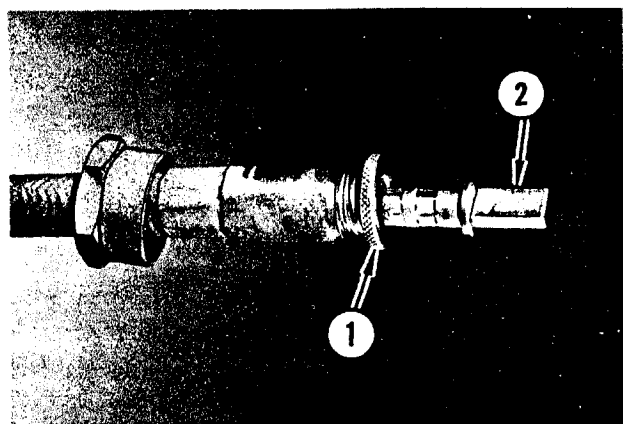

FIGURE 39. GOVERNOR FLEXIBLE DRIVE
Attach tailshaft governor flexible drive to governor flange. One end of the flexible drive can be adjusted; this end attaches to the tailshaft governor. Refer to Figure 39. Adjust knurled adjustment nut (1) until flexible shaft (2) will depress slightly when pressed with thumb. NOTE: Make this adjustment with opposite end of flexible drive connected to the drive pulley. CAUTION: The